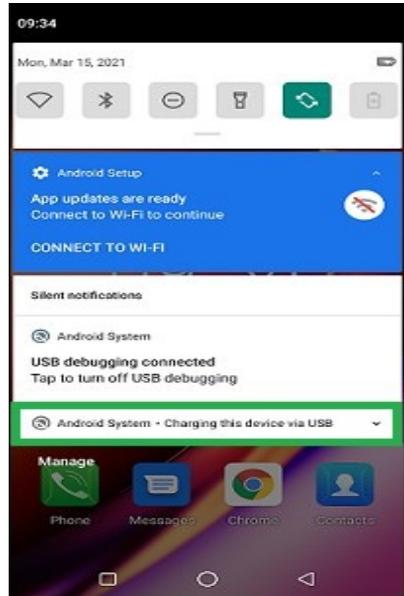

Figure 36 - Notifications
4. Click on the item "Charging the device via USB," Figure 36;